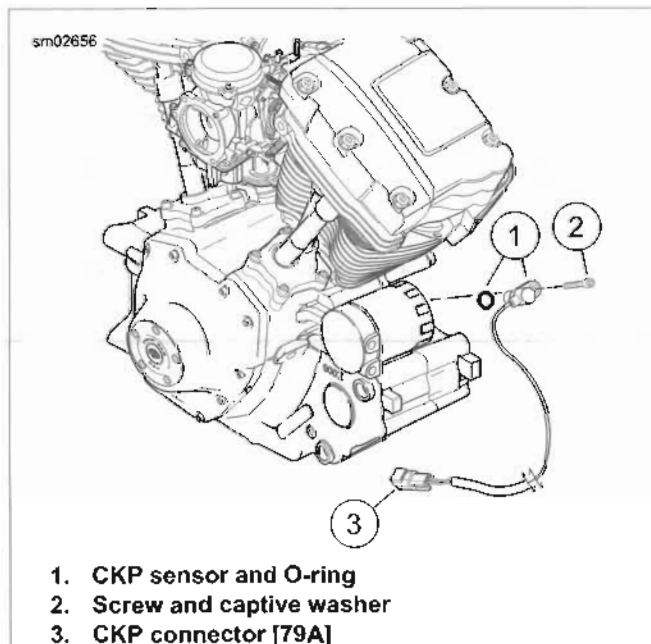

Figure 7-66. CKP Sensor Assembly
- b. See Figure 7-66. Disconnect the 2-place Mini-Deutsch CKP connector [79A] (3).
4. Remove screw and captive washer (2) to detach CKP sensor and O-ring (1) from crankcase. Carefully remove crank position sensor.
1. See Figure 7-66. Lubricate CKP sensor O-ring (1) with clean engine oil.